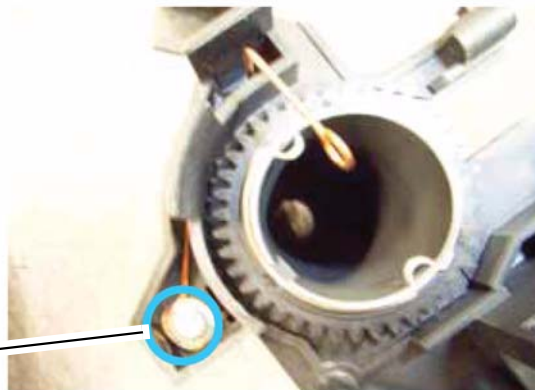

Figure 3
3. Disconnect the electrode, Figure 3.